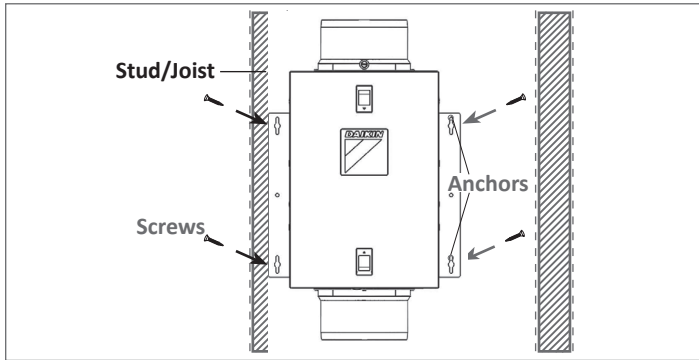

Figure 1 - Surface mounting of ventilator
- a. Surface Mounting: Place the ventilator in a position so that at least one of the mounting brackets is centered on a stud or joist and mark the location for the four (4) holes in the mounting brackets for securing the ventilator. Remove the ventilator and install properly rated wall/ceiling anchors for any of the holes that do not go directly into a joist or stud. The ventilator weighs approximately 15 pounds not including the duct work attached to it. Position ventilator in place by securing with screws (not included) through the four (4) holes in the mounting brackets (Figure 1).